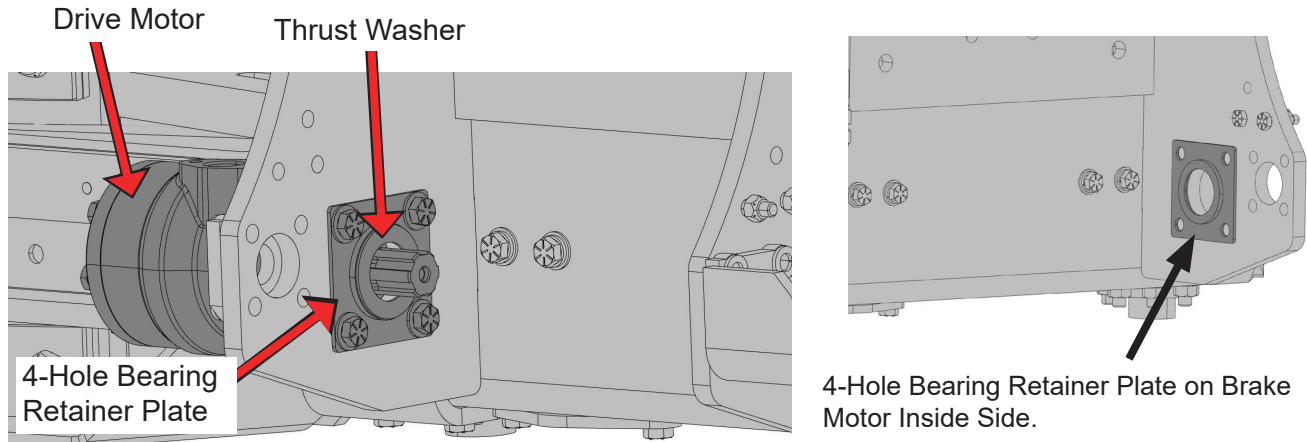

Figure 13
1. Install the 4-hole bearing retainer plate to the **inside of the grabber carriage assembly over the motorshaft support bearing** (Figure 13). The Loctite® applied side of the plate must be against the grabber carriage assembly. Follow the directions on the Loctite® packaging. The large hole in the bearing retainer plate matches the location with the large hole on the grabber assembly. **Repeat on the other inside side of the grabber carriage assembly.**
2. **Drive Motor:** Install the **drive motor** in place on the grabber carriage assembly on the **left side** (Figure 13). Install the motor just enough to allow the thrust washer (when it is installed in the next step) to hang on the shaft.
3. Install a thrust washer in place around the drive motor spline on the **inside side** (Figure 13).